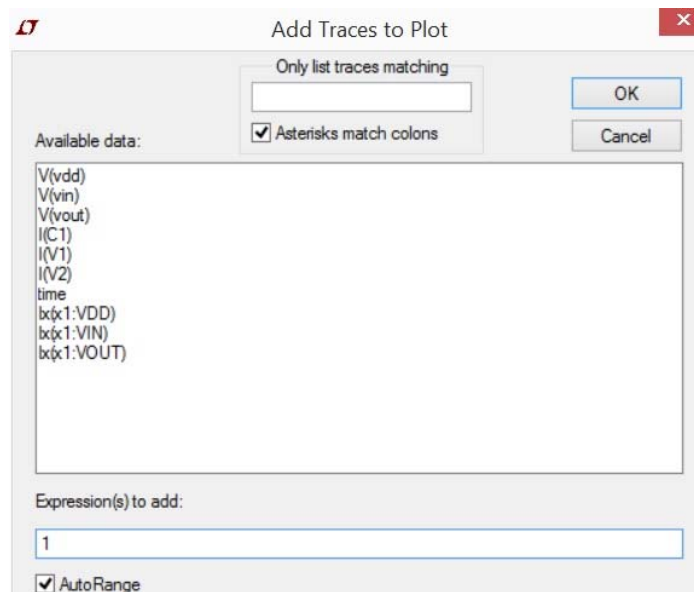
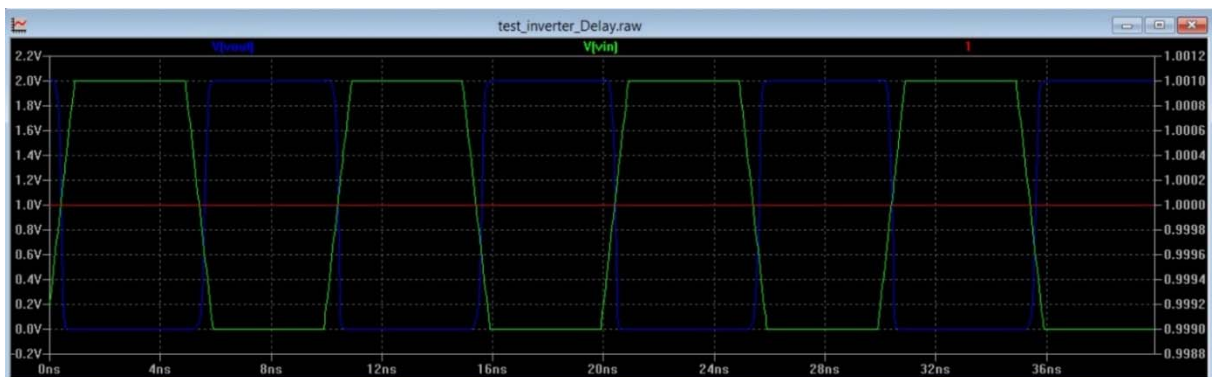

Figure 23. Add traces to plot window
Figure 24. Waveforms of the inverter
- Click **Plot Setting → Add Trace**, enter **1** which equals to  $50\% \times V_{in}$  (or  $50\% \times V_{out}$  for this case) in the field of **Expressions(s) to add** of the Add Traces to Plot form, and then click **OK** on the form, as figure 23. A horizontal line with the value of 1V is added on the waveform window as shown in Figure 24.